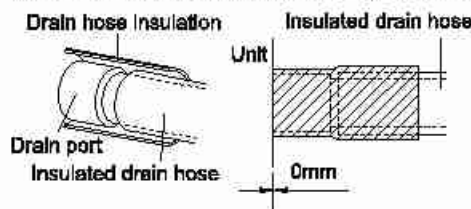

Fig.20
9. Be sure to insulate where the drain port and the drain hose is connected.(Fig.20 )